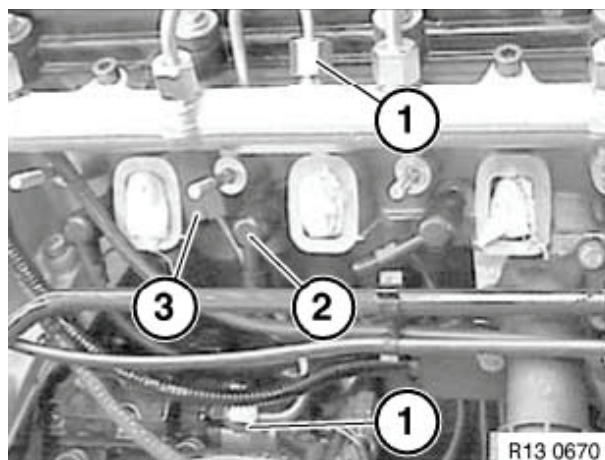

Figure 5-41
8. Install high-pressure pump-to-fuel rail line (Figure 5-41, (1)).
4BY2 Engines: Install rubber mount (Figure 5-41, (3)).
9. Install the glow plugs (Figure 5-41, (2)).